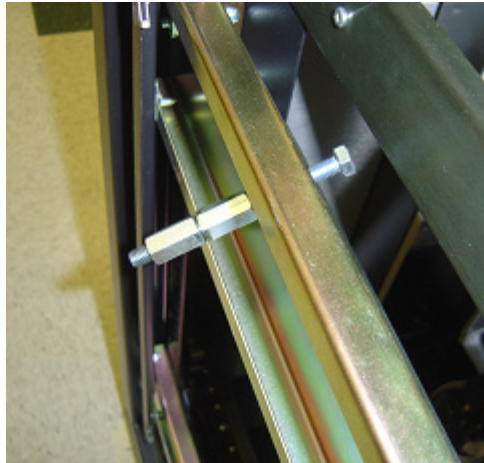

Figure 4-2: Bolt Pushed Back Through Brace
- c. **Push** the bolt back through the brace so only the coupling nuts are outside the edge of the library (see Figure 4-2).